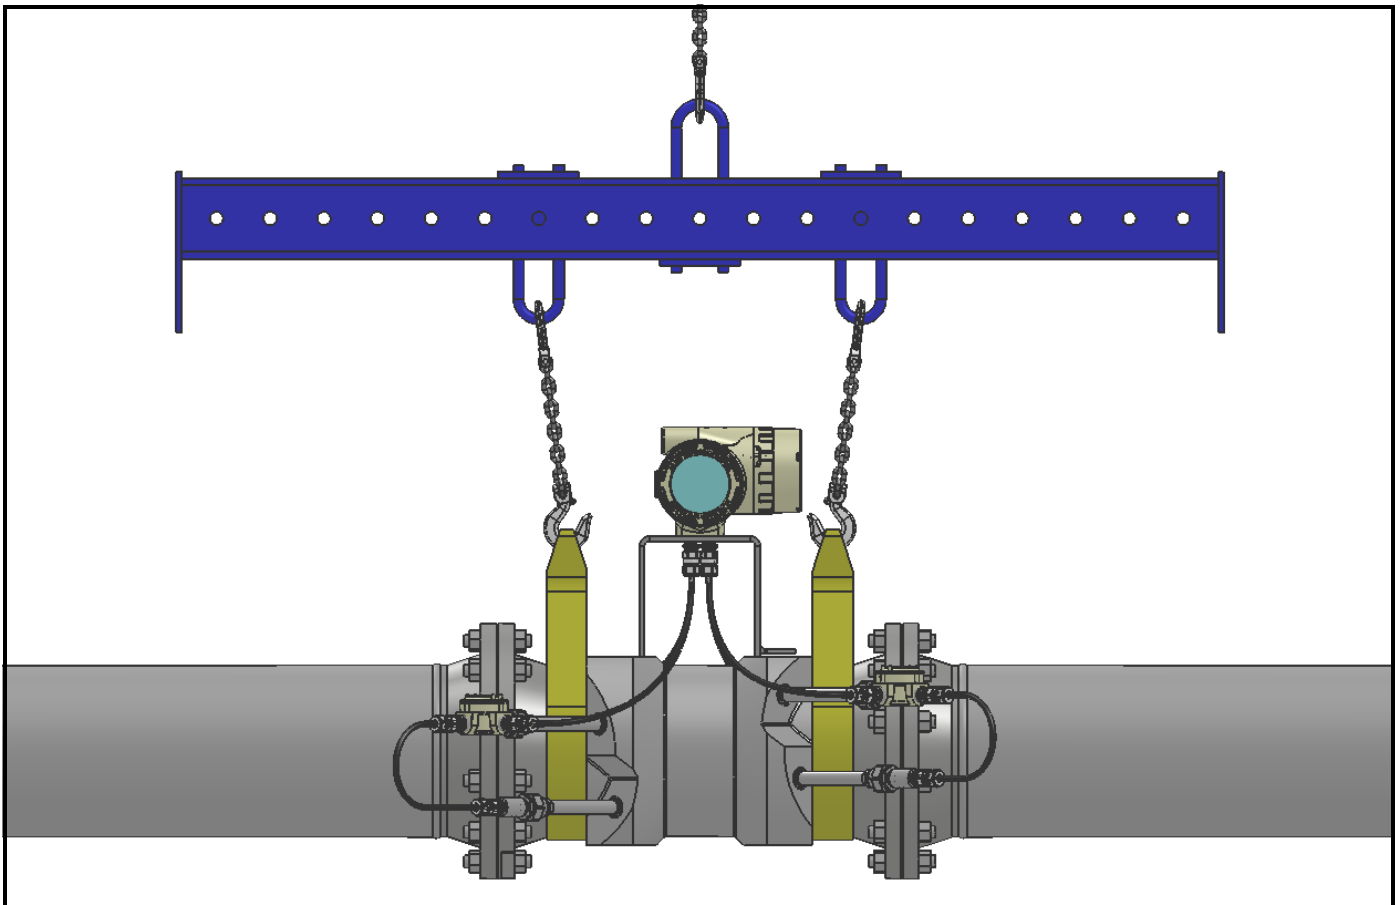

Figure 7: Lifting Strap Locations
**CAUTION!** To avoid possible strain, refer to the Sentinel LNG label for the assembly weight, use a properly-rated lifting assembly, and place the lifting straps in the indicated locations (see Figure 7 below).
- Make sure the Sentinel LNG is oriented with the flow transmitter in a vertical position at the top (see Figure 7 below).